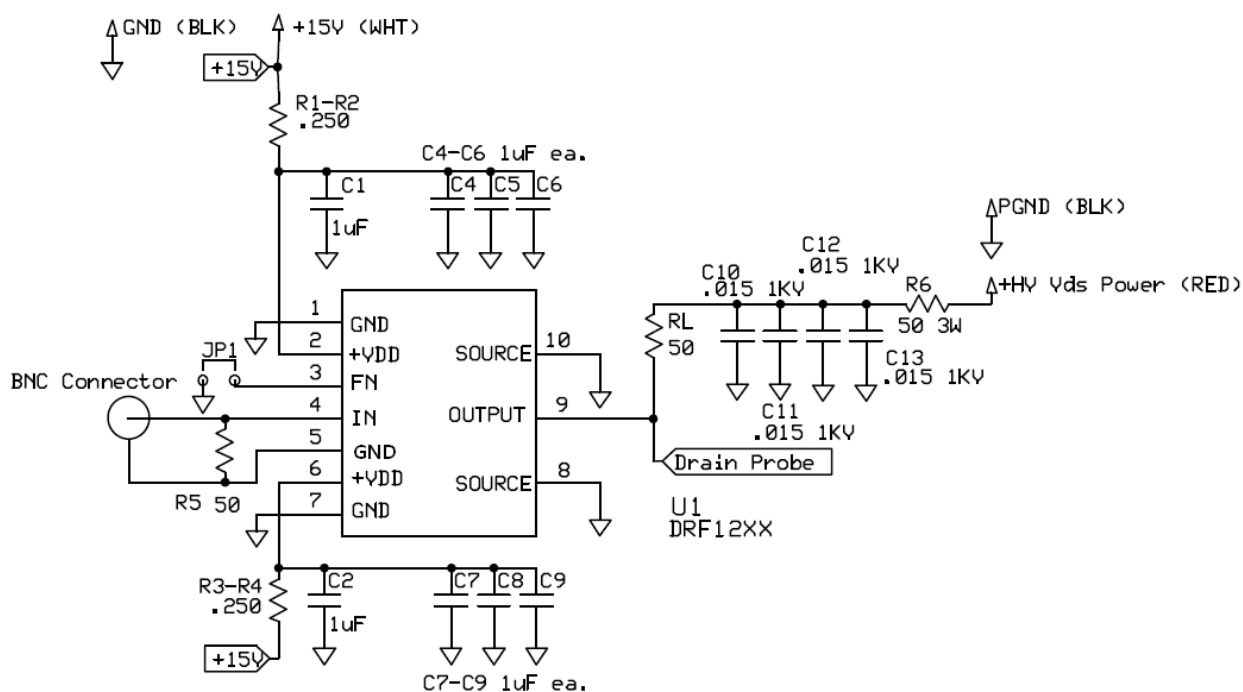

Figure 2. DRF12XX Evaluation Board
The DRF12XX Evaluation Board allows the design engineer to prototype a circuit of choice. It is initially configured as shown in Figure 2 allowing the user to evaluate the simple switching performance of the DRF12XX. The 50Ω load resistor (RL) has a power limit of 4 Watts. In this configuration, the DRF12XX Evaluation Board should be operated at a reduced Duty Cycle to avoid damaging the RL. The DRF12XX must be attached to a heat sink when reconfigured for dissipation greater than 4 watts.